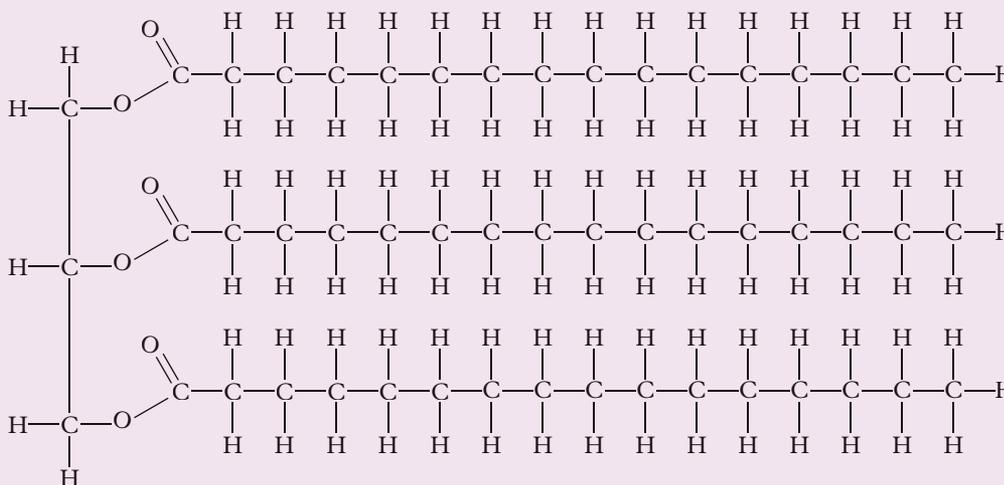

FIGURE 5 Triglycerides
- 7 **Construct** the saponification of triglyceride in Figure 5 as an equation.